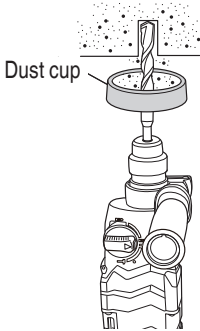
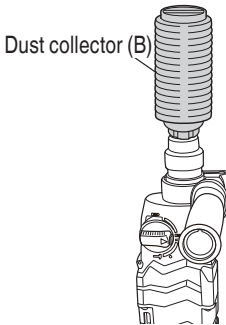

Fig. 13
Fig. 14
4. Installation of dust cup or dust collector (B) (Optional accessories) (Fig. 13, Fig. 14)
Use the dust cup by attaching to the drill bit as shown in Fig. 13.
- Installing dust collector (B)
When using dust collector (B), insert dust collector (B) from the tip of the bit by aligning it to the groove on the grip. (Fig. 14)